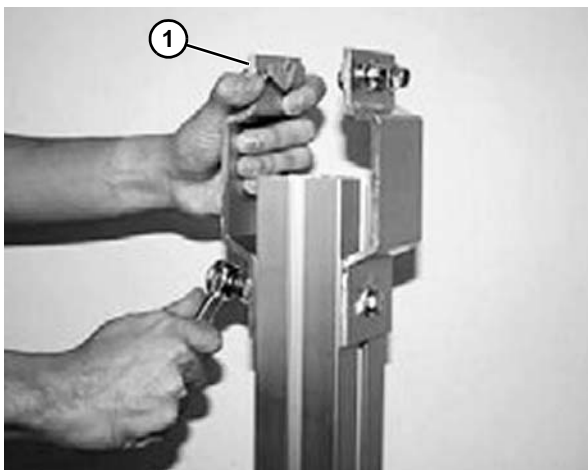

Figure 18
2. Insert the square nuts of the second support bracket (**Figure 18, item 1**) into the support beam T-slots. Slide the bracket down so that it does not protrude above the cross-section of the beam.